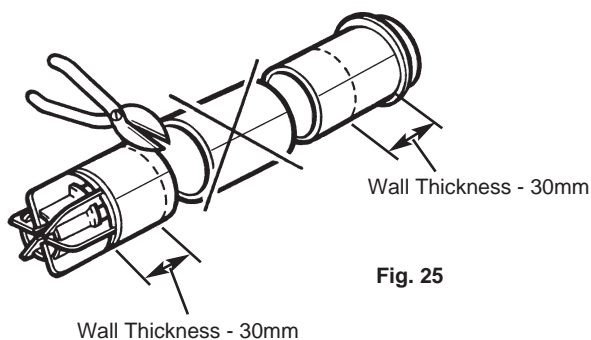

Fig. 25
If the wall thickness is less than 280mm (11 in), it will be necessary to cut the components of the air duct to the appropriate size. Dispose of the centre section, as this is not required (Fig. 25).
5. Measure the wall thickness and subtract 30mm ($1\frac{3}{16}$ in) from this dimension. Cut the remaining sections to this length, measuring from the positions indicated in the diagram (Fig. 25).